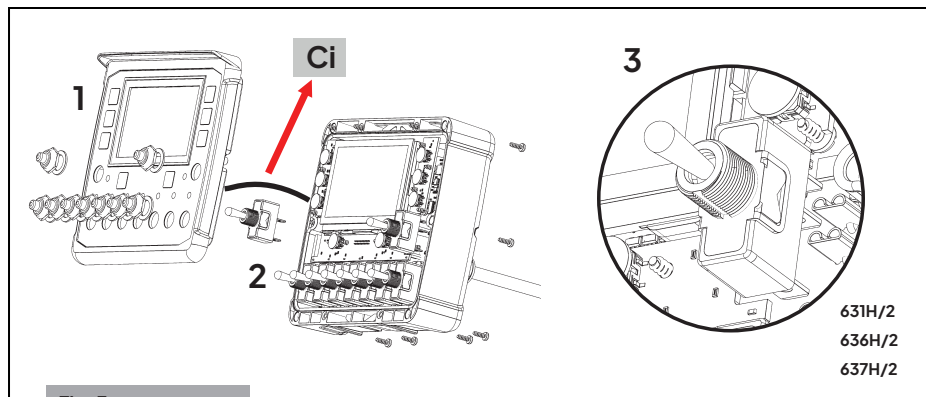

Fig. 3
► Damaged Switch Replacement (Fig. 3)